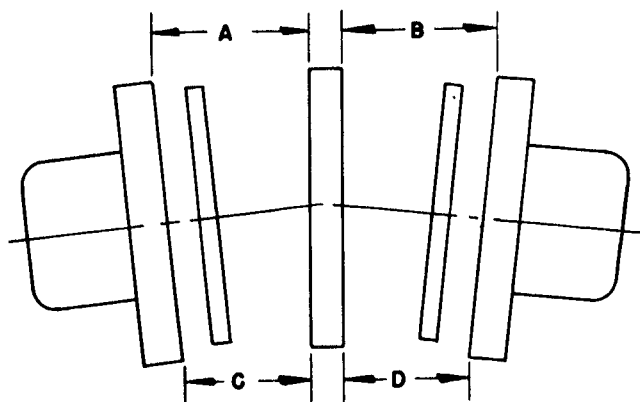

Fig. 68 — Angular Misalignment
9. Tighten the motor holddown bolts and check dimensions A, B, C and D as shown in Fig. 68 and 69. *If all dimensions are equal within .010 in., the coupling is correctly aligned.* Take all measurements between flange faces near the outside diameter of the flanges.
10. If dim. A and B are larger than C and D (Fig. 68), the coupling is in angular misalignment. Move and shim the motor until the dimensions are within tolerance.